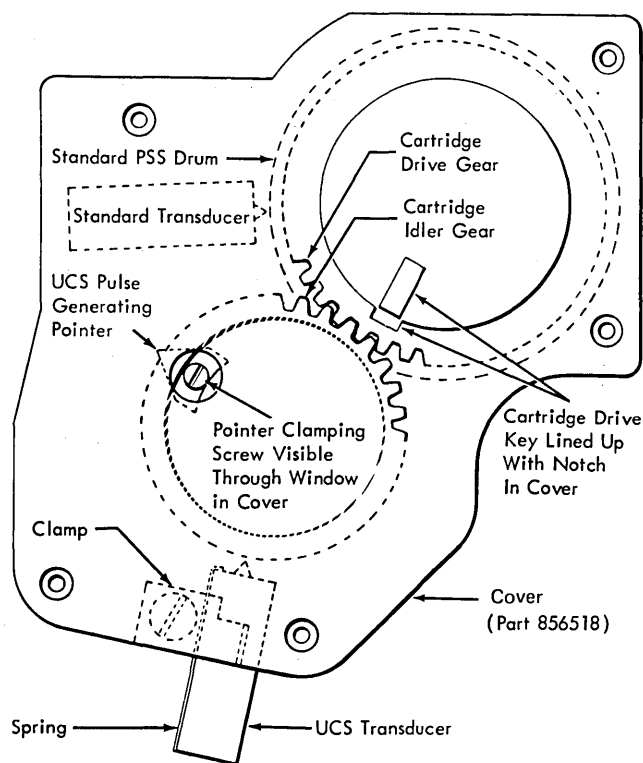

Figure 4-87. Timing the UCS/PCS/MCS Cartridge
Gear cover (part 856518) provides a universal method of timing the UCS/PCS/MCS cartridge. This cover (Figure 4-87) has a circular window near its center and a circular opening with a rectangular notch.
1. The key on the cartridge drive gear aligns with the rectangular notch, as shown in Figure 4-87.